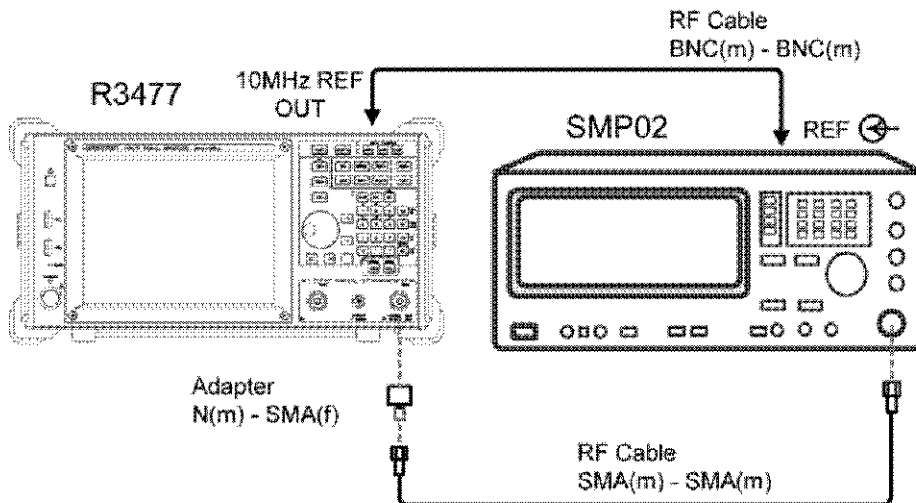

Figure 2-6 Frequency Span Accuracy Test
1. Connect the instruments as shown in Figure 2-6.